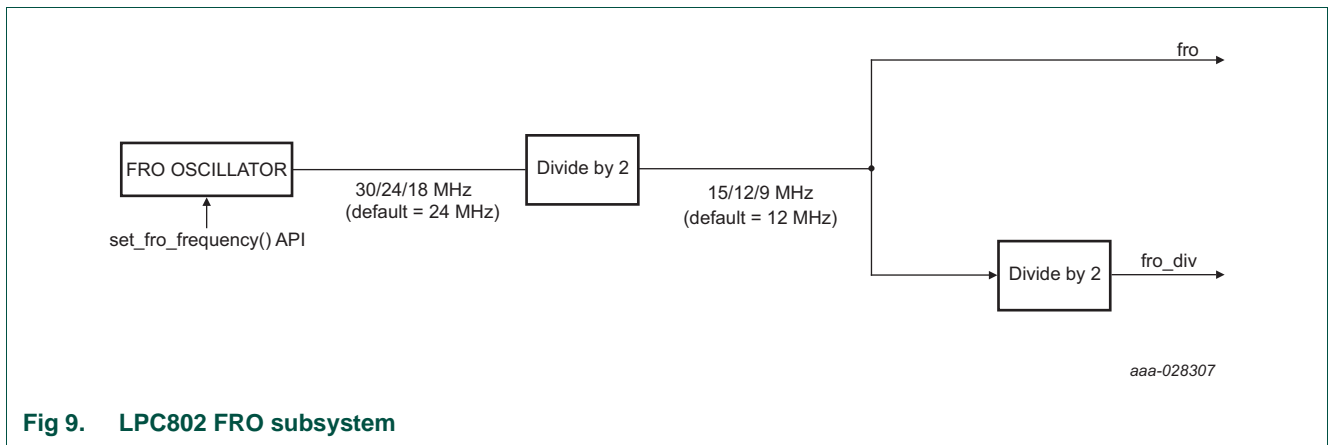

Fig 9. LPC802 FRO subsystem
2. Select the fro_oscout (30 MHz/24 MHz/18 MHz) using the set_fro_frequency API call: Chapter 7 “LPC802 FRO API ROM routine” and Figure 9 “LPC802 FRO subsystem”.
fro_div	Divided output of the currently selected on-chip FRO oscillator. See Figure 9 “LPC802 FRO subsystem” .
fro	The output of the currently selected on-chip FRO oscillator. See Figure 9 “LPC802 FRO subsystem” .